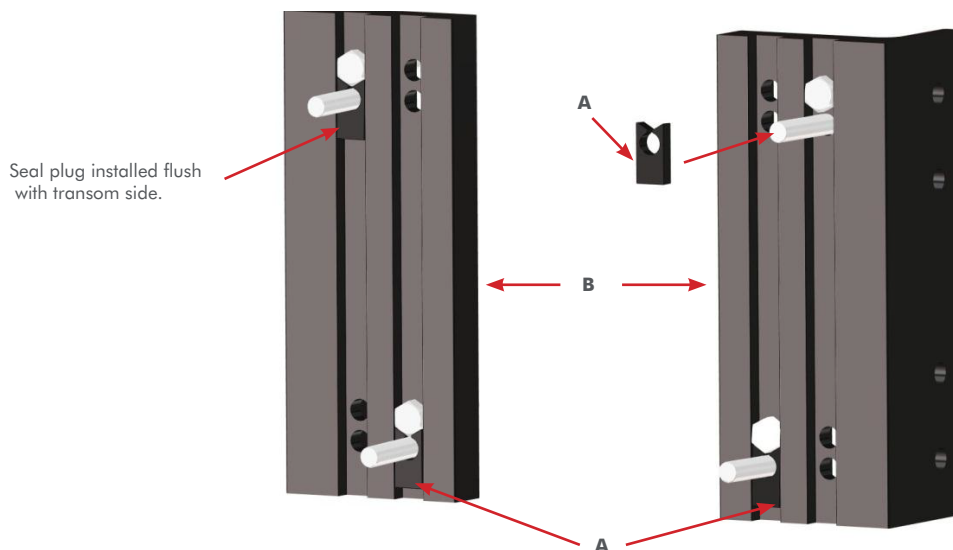

Figure 4
STEP 4: Install the M to S seal plugs **A** onto each transom bolt being used with the M to S Adapter Plates **B** as illustrated (**FIG. 4**).